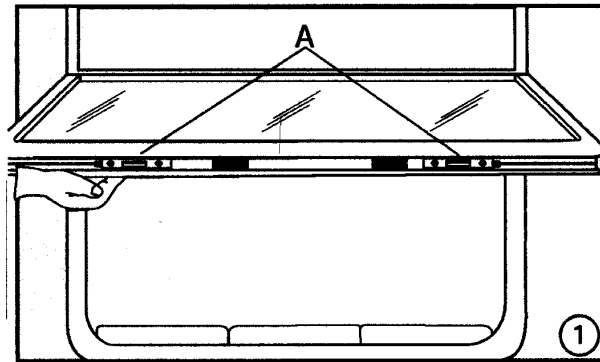

FIGURE 3-29: EGRESS CATCH BAR
- 2) Refer to **Figure 3-29**. Remove clips starting at the bottom as shown.
2) Refer to **Figure 3-29**. Remove all debris.